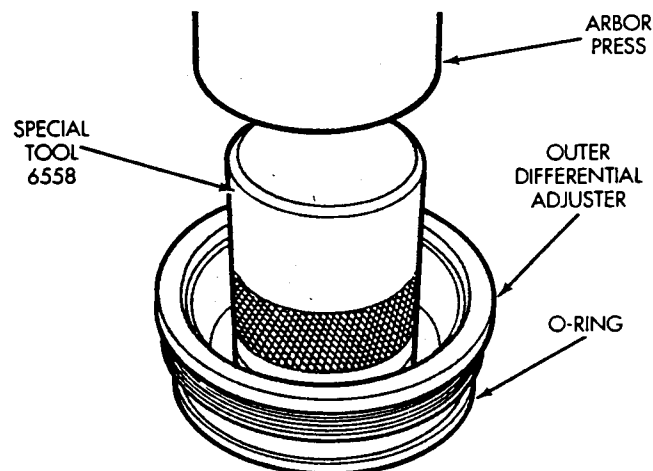

Fig. 15 Axle Shaft Seal Installation
(16) Remove old stub shaft seals. Press inner adjuster seal out with special tool 6502B. Press outer adjuster seal out with special tool 6558.
(17) Install new stub shaft seals in both adjusters using special tool 6558 (Fig. 15).